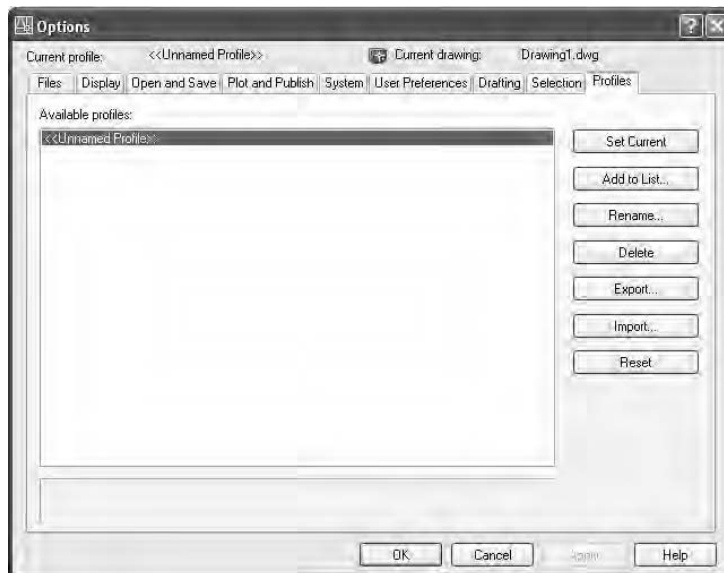

FIGURE 1.9: The Profiles tab in the Options dialog box
3. Click the Profiles tab, which is shown in Figure 1.9.